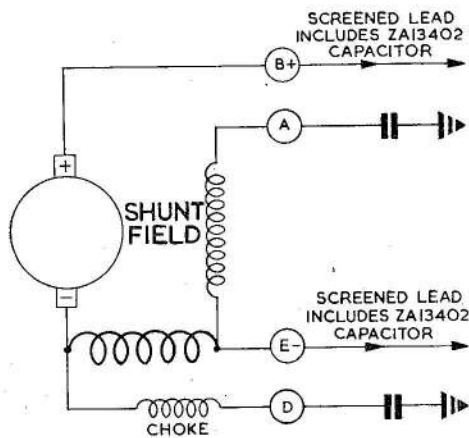

Fig. 1. Diagram of internal connections
B3505 is designed for flange and spigot mounting. Installation details of generator, Type B3503 (fig. 1, Appendix 3) also apply to the B3505 generator of this appendix.
3. An involute type of spline has been introduced to a quill drive that forms an integral part of the main armature driveshaft. The spline details will be found in Leading Particulars, and illustrated in the installation details for the B3503 (Appendix 3, fig. 1).
4. The B3505 generator has a new terminal box, and additional suppression added, this being in the form of two capacitors and a choke coil fitted in the terminal box; two special capacitors (ZA13402) are incorporated in the Superflexit screened cable, which is fitted during installation in the aircraft (fig. 1 and 2).